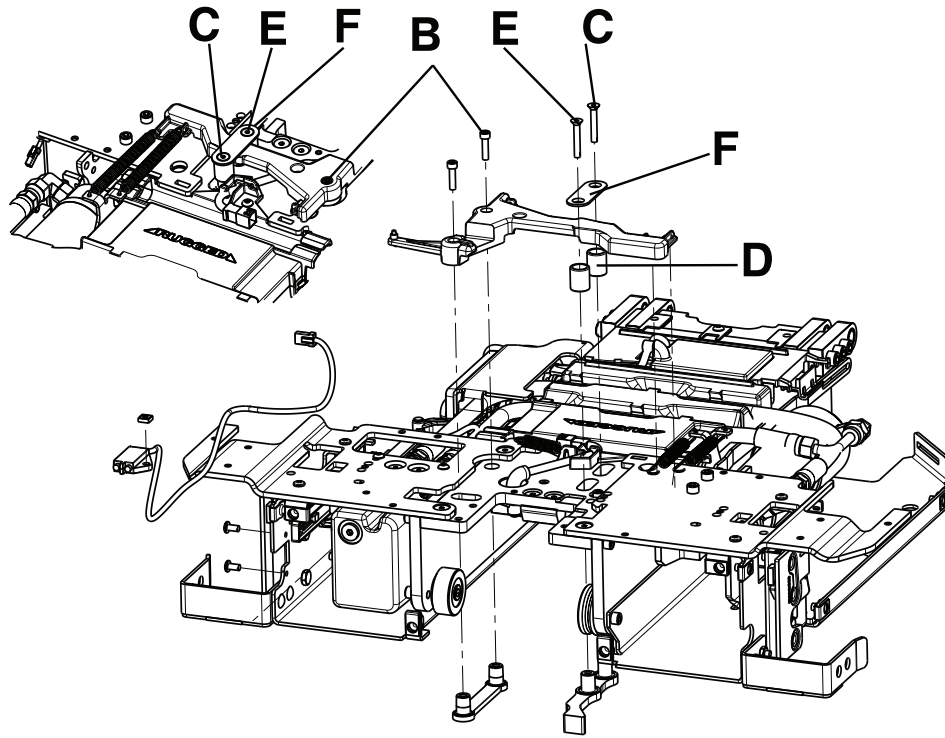

Figure 29 – TPS assembly
4. Using a 5/32" hex wrench, loosen (do not remove) the socket head cap screw (B) that secures the trolley mechanism arm (Figure 29).
5. Using a 1/8" hex wrench, remove the flat head cap screw (C) that secures the link to the trolley mechanism arm and remove the trolley mechanism pivot pillar (D) (Figure 29). Save the screw.
6. Using a 1/8" hex wrench, loosen (do not remove) the flat head cap screw (E) that secures the front link (F) to the trolley mechanism arm. Swing the trolley mechanism arm out of the way (Figure 29).